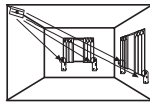

Fig 5
- Corner Mounted** (choose corner opposite glass to be protected see fig. 5).